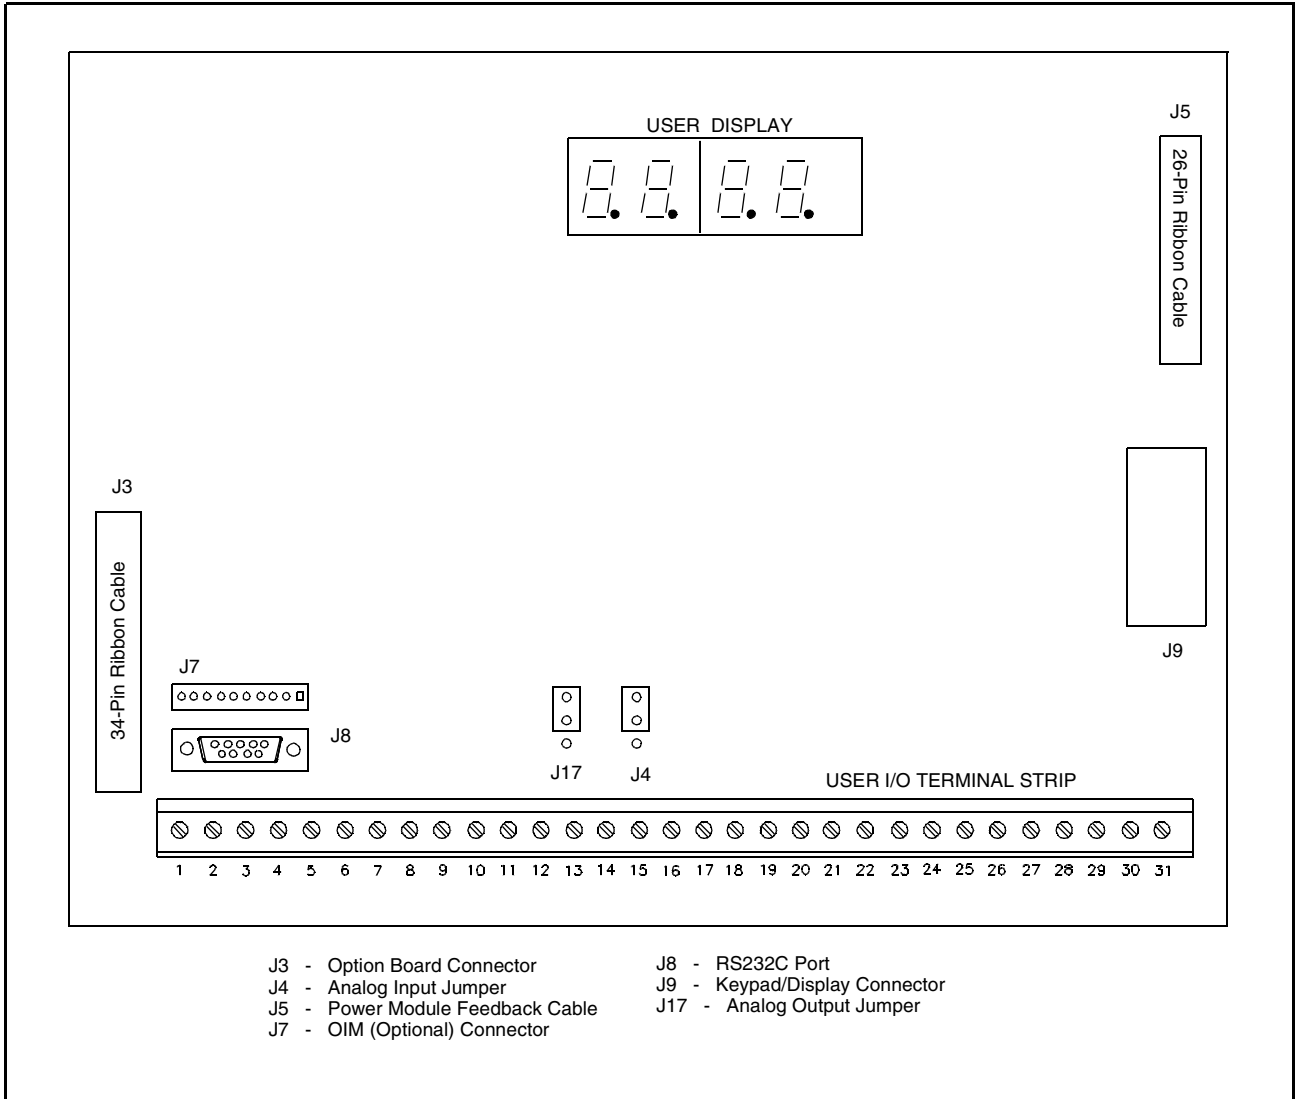

Figure 2.9 – 1-60 HP Regulator Board Component Locations
Drive regulation is performed by a microprocessor on the Regulator board. See figures 2.9, 2.10, and 2.11. Drive operation is adjusted by the parameters entered through the keypad. The Regulator board accepts power circuit feedback signals and an external speed reference signal, as well as data from an encoder that is attached to the motor when set up for FVC regulation. The Regulator board provides:
As shown in figures 2.9, 2.10, and 2.11, the Regulator boards are similar but have different Power Module interface connectors.
Jumpers J4 and J17 on the Regulator board are factory-set for voltage in and voltage out signals. Refer to figures 2.9, 2.10, and 2.11 for their locations on the Regulator boards. If you need to change the jumpers' settings, use the following procedures.
Step 4. Locate jumper J4 on the Regulator board. Refer to figures 2.9, 2.10, and 2.11.
- Step 4. Locate jumper J17 on the Regulator board. Refer to figures 2.9, 2.10, and 2.11.
The terminal strip on the Regulator board provides terminals for connecting customer I/O devices. See figures 2.9, 2.10, 2.11, and 2.14. The following terminals are provided:
The Regulator board contains a 9-pin D-shell RS-232 communication port (J8). This port provides RS-232 communication between the GV3000/SE drive and a personal computer running the Control and Configuration (CS3000) software. See figures 2.9, 2.10, and 2.11. Refer to instruction manual D2-3348 for more information about the CS3000 software.
The flat-ribbon cable connector (J3) on the left side of the Regulator board is a parallel bus connection port that provides a means of attaching optional boards such as the DeviceNet Option board, the RMI board, the AutoMax Network Option board, or similar boards to the GV3000/SE drive. See figures 2.9, 2.10, and 2.11. The option board is mounted below the Regulator board inside the drive. Refer to the appropriate board instruction manual for more information. Refer to section 2.9 of this manual for more information on optional drive kits.